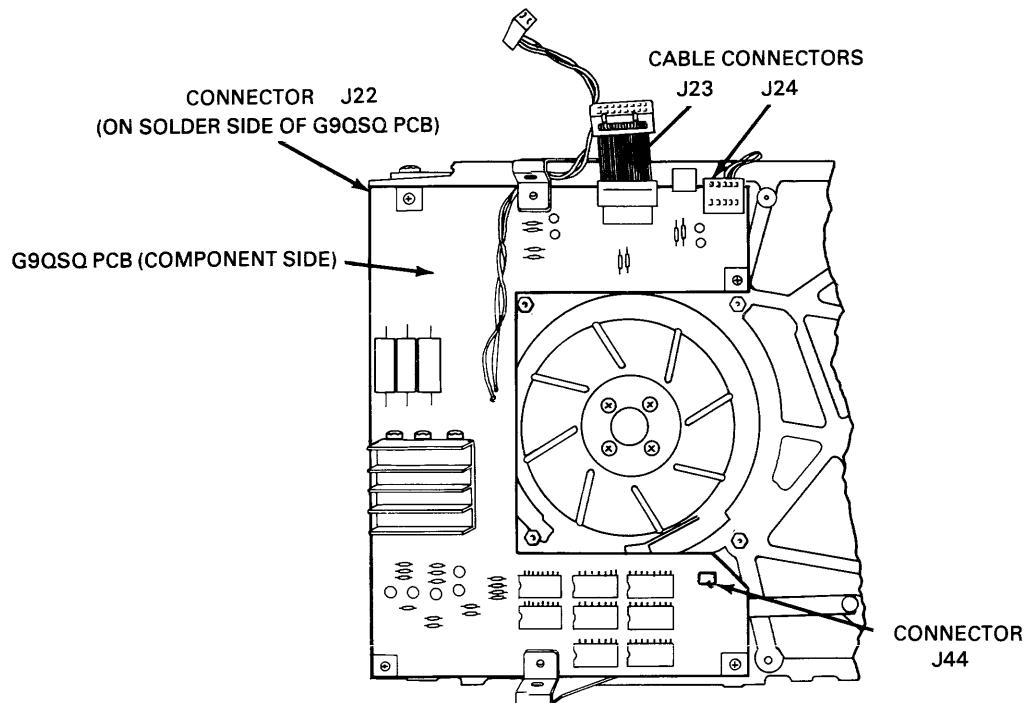

Figure 4-5 G9SQ Cable Connectors
7. Disconnect cable connectors J22, J23, J24, and J44 (see Figure 4-5).
8. Remove the three screws that attach the G9SQ PCB to the drive unit (see Figure 4-5).